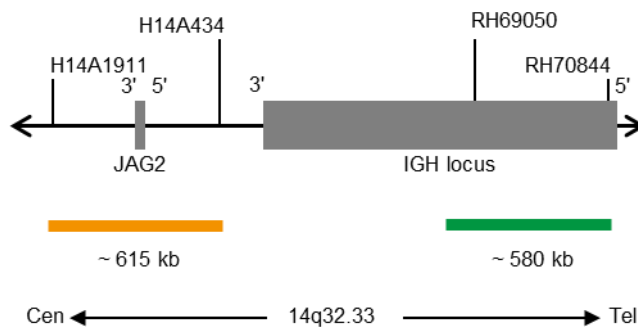

Fig. 1: IGH Probe map (not to scale)
- ZyGreen (excitation 503 nm/emission 528 nm) labeled polynucleotides (~6.0 ng/ μ l), which target sequences mapping in 14q32.33* (chr14:106,690,778-107,268,412) distal to the IGH breakpoint region (see Fig. 1).
- ZyOrange (excitation 547 nm/emission 572 nm) labeled polynucleotides (~4.0 ng/ μ l), which target sequences mapping in 14q32.33* (chr14:105,296,741-105,909,611) proximal to the IGH breakpoint region (see Fig. 1).